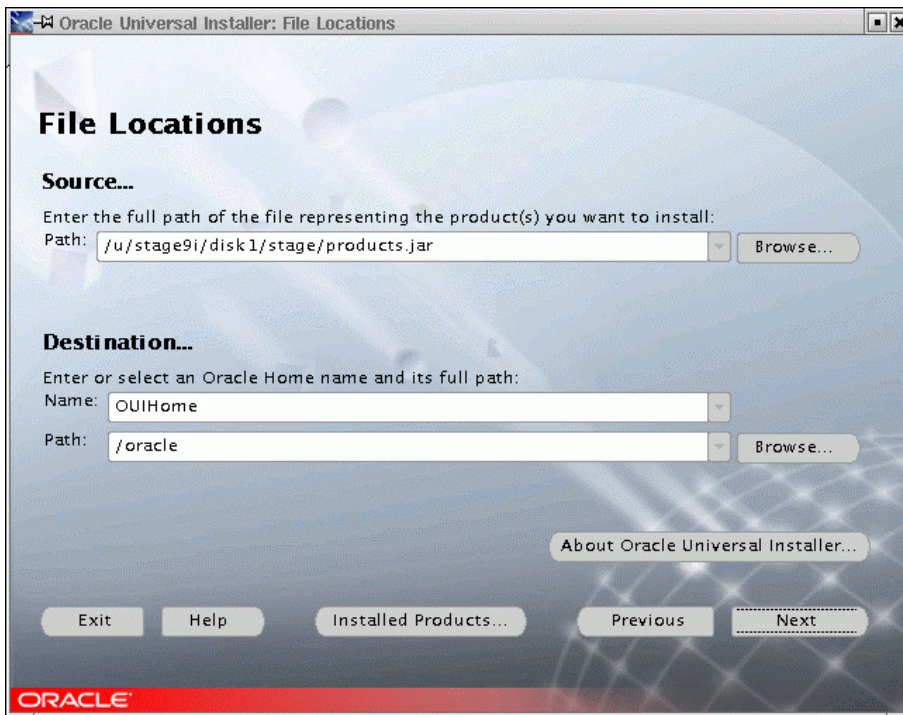

Figure 31. File Locations
6. Verify information on the File Locations screen, shown in Figure 31. Click **Next** to continue.
The next window will be the File Location Screen that we have already seen in Figure 31. Click **Next** to continue.